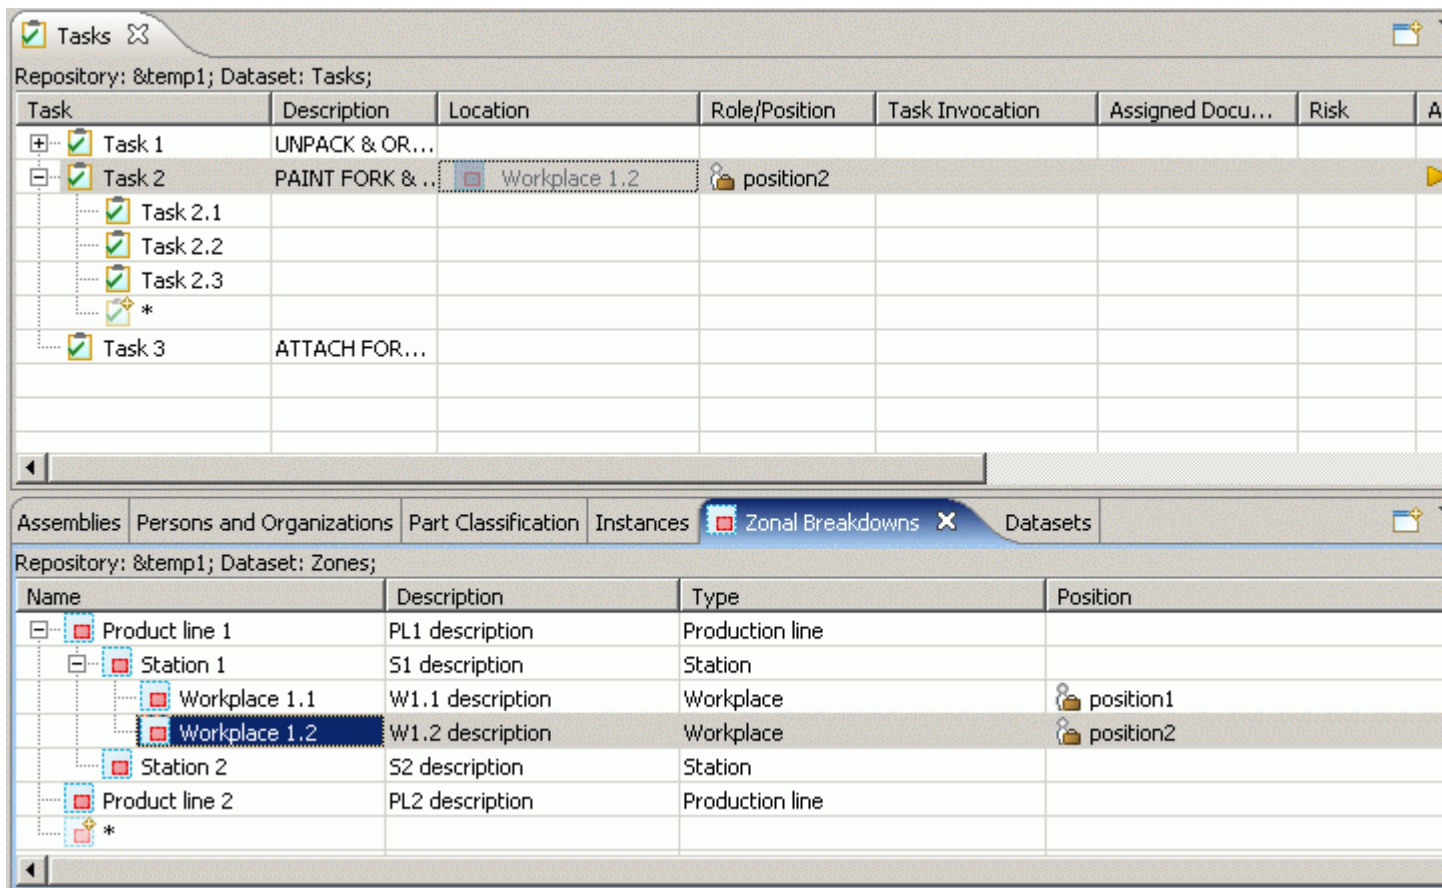

Figure 2. Zonal breakdown 'Workplace_1.2' dragged onto Task 'Task 2'
- Drag the selected  zonal breakdown onto the **Location** column of an applicable  task in the  **Tasks** window. A transparent  icon and name of the  zonal breakdown appears while dragging (see Figure 2).